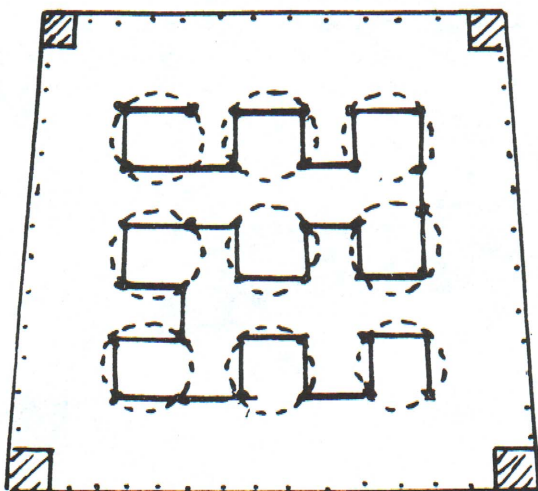

**Fig. 21—Fitting material at posts.**
depress the springs. If necessary, cut and fit material around the posts (Fig. 21).
At this point a professional worker would stretch the outer covering over the padding. It is easier, however, for the beginner to shape each part if he first puts on a muslin undercover. Cut muslin large enough to turn under 1 inch and baste tack to the frame all around (drive tacks in only part way), so you can later make needed adjustments. Fasten muslin first in the center back, then center front, then center of each side. Work toward the corners. Keep the threads of the muslin straight each way and pull evenly. Space tacks about 1 inch apart. Miter corners to fit smoothly around corner posts and arms (Fig. 21). Cut out excess material and fit smoothly around front corners of seat.
1. **Make a Pattern** as a guide for cutting foam. Fit paper on area to be covered. Mark exact size, fitting it carefully around arms and posts (Fig. 21). Next draw an oversizing allowance on all sides of pattern. This extra size is needed to make the covering material fit snugly and stay in place. Amounts to add to all sides of the pattern are: (a) for slab foam on small pieces,  $\frac{1}{4}$  inch all around; (b) for cored foam on chairs, and love seats,  $\frac{1}{2}$  inch all around; (c) for larger two-cushioned davenports and built-ins,  $\frac{3}{4}$  inch on all sides; (d) for full length davenports  $2\frac{1}{2}$  inches on the length.